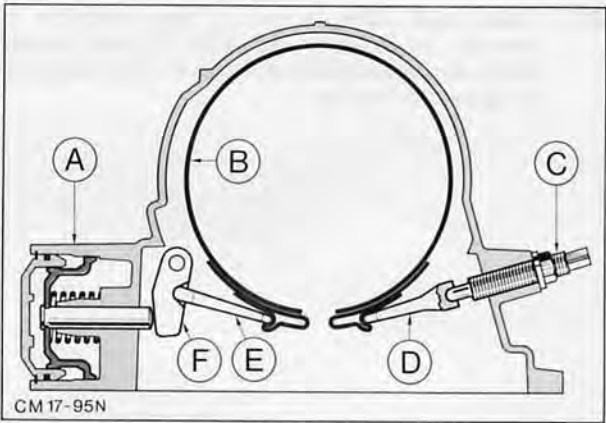

Fig. 117. Front brake band fitted
43. Place front brake band in position and fit struts together with adjustment screw, starting with strut nearest servo piston, Fig. 117. Remove brass clip. Screw adjustment screw in far enough to make it impossible for struts to fall out.